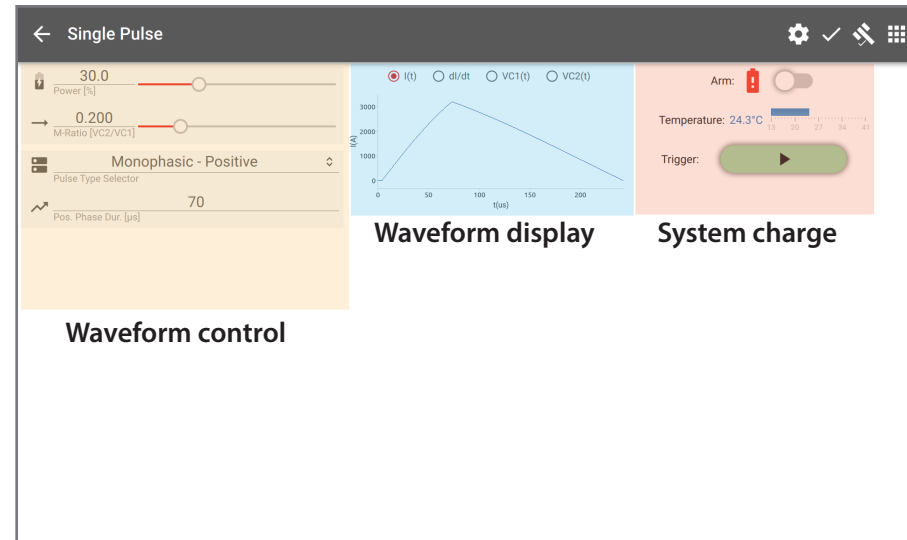

Fig. 2-16: Single pulse screen
- From the main menu, tap Single Pulse. Fig. 2-16 shows the single pulse window. The window can be divided into three zones.